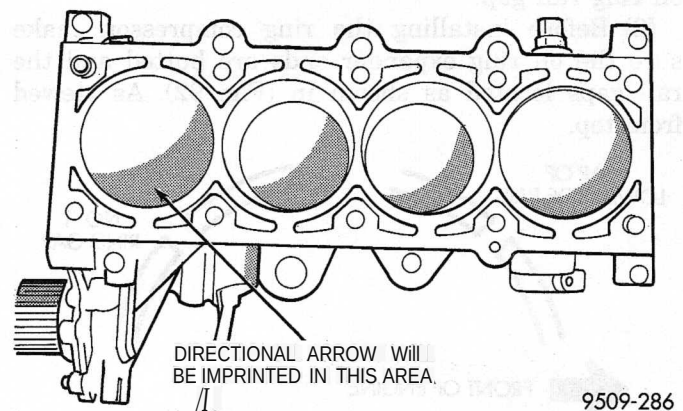

Fig. 90 Piston Markings
inder block. **Be sure to keep tops of pistons covered during this operation.** Mark piston with matching cylinder number (Fig. 90).
(4) The directional stamp on the piston should face toward the front of the engine (Fig. 90).
(5) Rotate crankshaft so that the connecting rod journal is on the center of the cylinder bore. Insert rod and piston assembly into cylinder bore and guide rod over the crankshaft journal..